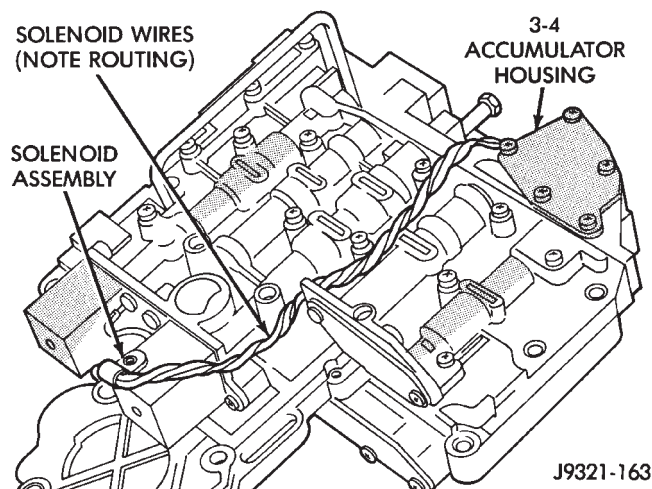

Fig. 126 Solenoid Wire Routing (42RH)
(8) Verify that solenoid wires are properly routed (Fig. 126). **Solenoid wires must be clear of rear band lever, manual lever and park rod.**